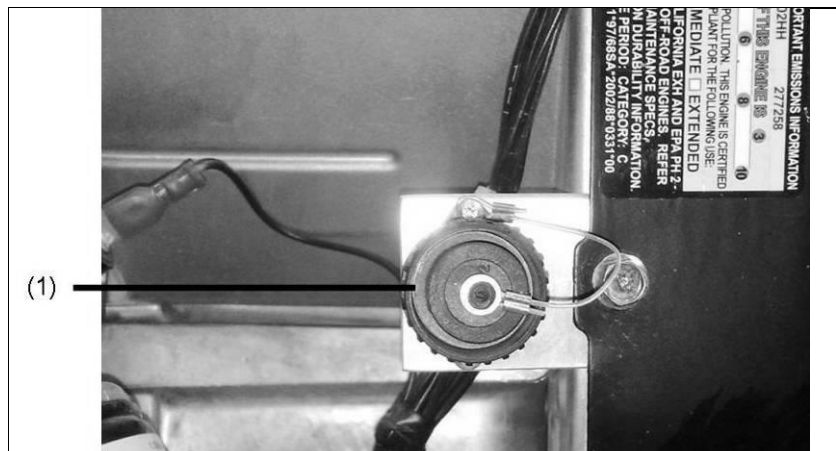

Figure 5-4: Connecting up a remote start device
1. Unscrew protective cap on the remote start socket (Figure 5-4-(1)).
2. Screw protective cap onto the remote start socket (Figure 5-4-(1)).